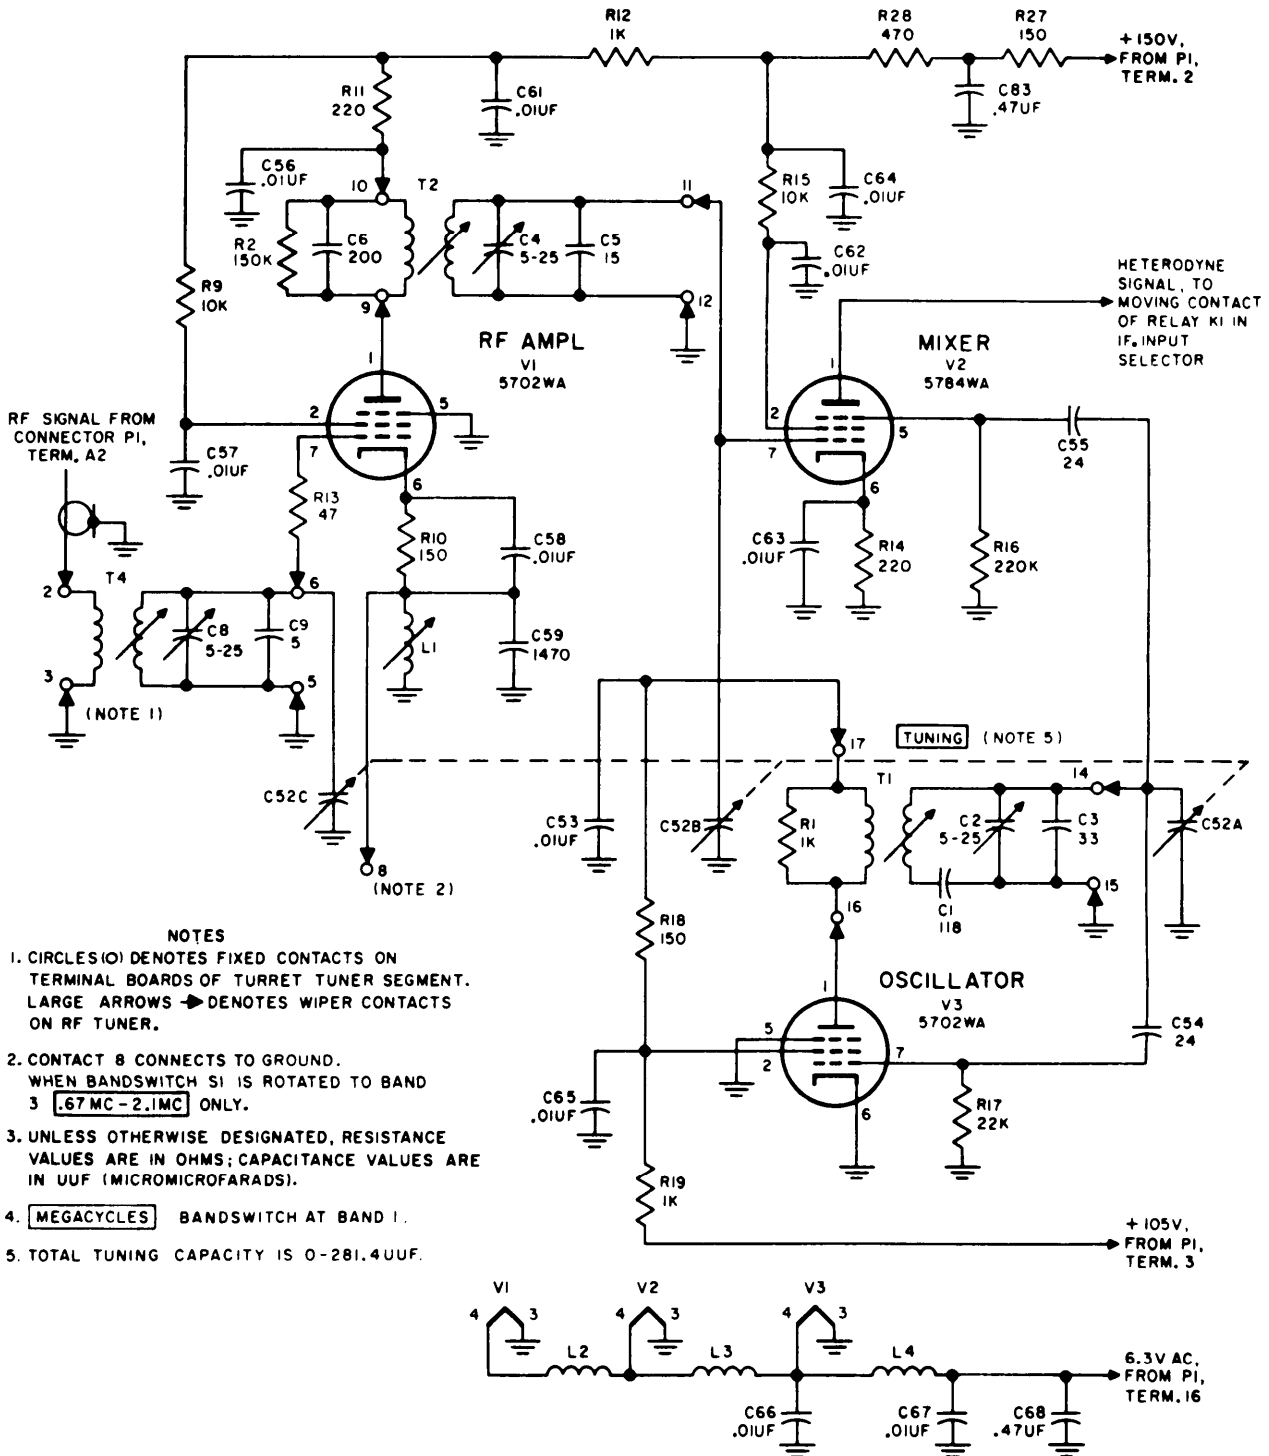

Figure 16. Tuning unit 1 rf oscillator, mixer, and oscillator, simplified schematic diagram.
(fig. 16)
The six-position turret tuner (fig. 56) contains six separate phenolic segments on which are mounted rf transformers, trimmers, capacitors, and loading resistors for the six different frequency bands. Each tuner segment has three sets of coils and trimmers: the input grid circuit of the rf amplifier, the coupling circuit from the plate of the rf amplifier to the mixer, and the tuned circuit for the oscillator. Since the segments are essentially similar in design, except for component values and tuned frequencies, the circuit analysis given in the following subparagraphs is based on a detailed explanation, with MEGACYCLES band switch set to band 1 (fig. 16). The frequency bands are as follows:
a. Input Circuit. The primary of transformer T22 and parallel capacitor C69 form a circuit which is resonant to 455 kc. Resistor R22 lowers the Q of the tuned circuit to an optimum value. The primary of transformer T23 and parallel capacitor C71 form a circuit which is resonant to 1,600 kc. Resistors R27 and R29 and capacitors C72, C77, and C83 comprise the plate decoupling network for mixer V2 (fig. 16). Feedthrough capacitors C75 and C76, in the +150-volt power supply line, bypass if. currents to ground. The coil of relay K1 controls the movable contact that connects either T22 or T23 into the mixer plate circuit. In the energized position of K1, transformer T23 (tuned to 1,600 kc) is connected to the plate circuit. Relay K1 is energized from the +150-volt source when the band switch is rotated to bands 2, 4, 5, and 6. Feedthrough capacitor C74 is used as an rf bypass. Resistor R21 serves as a voltage-dropping resistor to the coil of the relay; C73 provides a path to ground for relay contact switching transients.